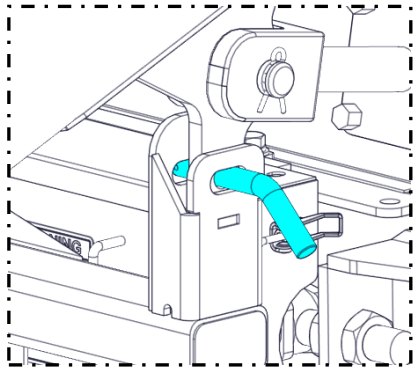

Figure 4.12
- A) Remove the transport pin on the feed auger support that holds the feed auger to the mill trailer (Figure 4.12).